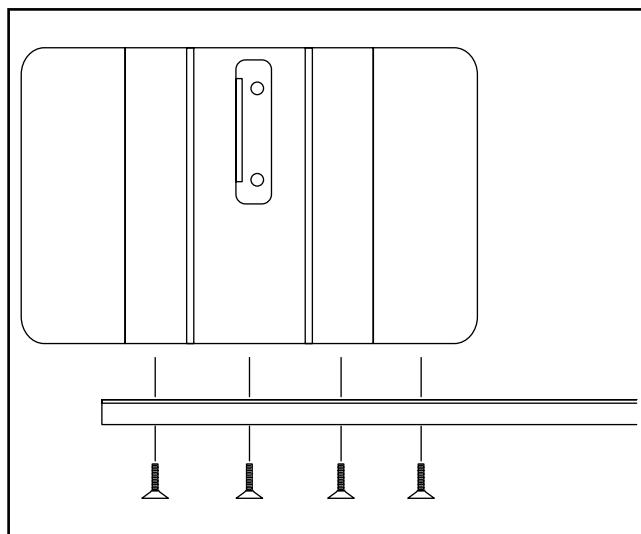

Figure 9. Front rail attachment procedure.
3. Attach the front rail to the table top using the hex socket flathead screws as shown in **Figure 9**. Place a combination square set to $2\frac{5}{32}$ ", at the edge of the table, and adjust the rail so it is consistently $2\frac{5}{32}$ " below the top of the table.